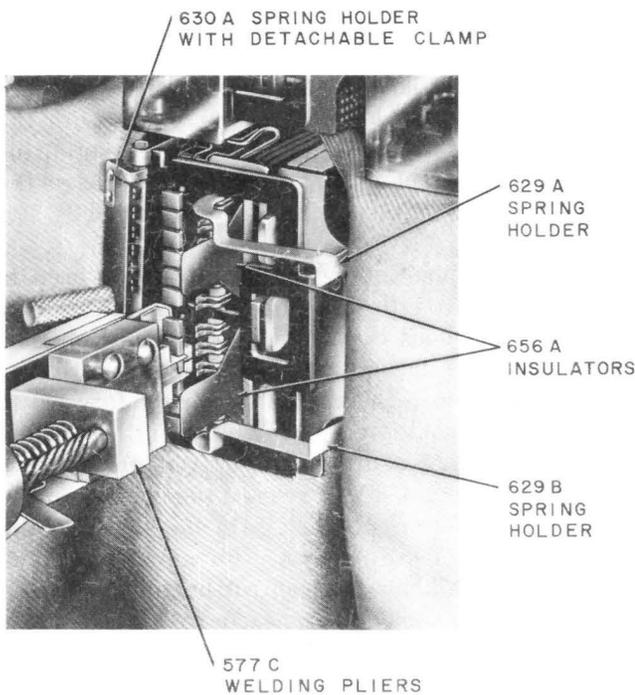

Fig. 9—Welding Contact on Fixed Spring
4.27 After positioning the pliers as covered in 4.24 through 4.26, hold them so the side of the jaw electrodes is parallel to the fixed contacts. Hold the pliers in line with the spring, and release the latch to move the contact electrode forward to the welding position as shown in Fig. 9. Then, with all hand pressure removed from the handles of the pliers, depress and release the control button of the current supply set. Do not operate the control button more than once for any one welding operation. Holding the control button depressed has no effect since the time control relay of the current supply set is held locked until the control button is released.